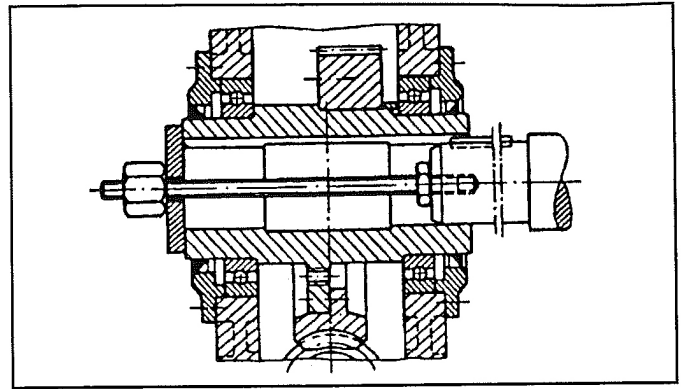

Figure 5
- Push the reducer onto the shaft by use of a threaded rod secured in the machine shaft. See Figure 5. A hydraulic device can also be used.